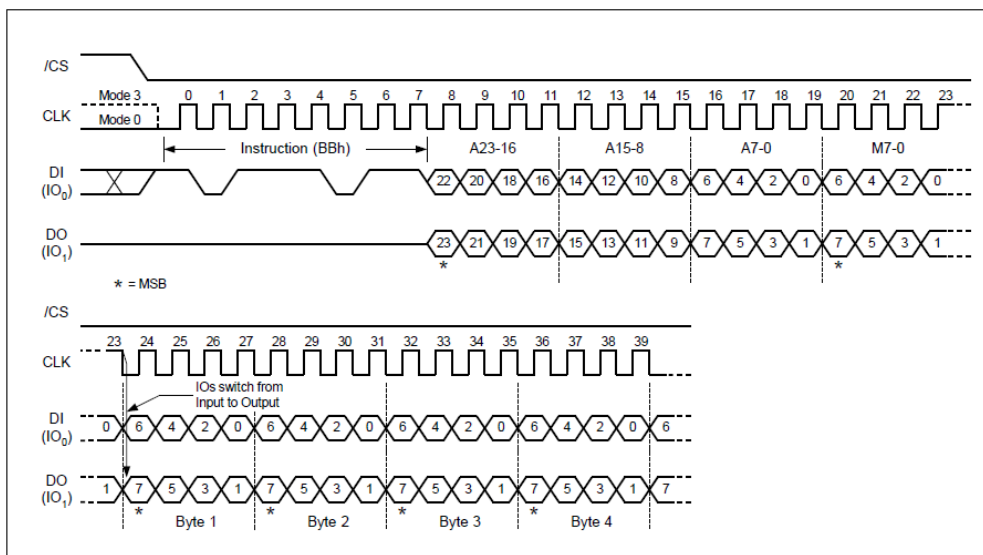

Figure 15, Dual I/O Fast Read Sequence Diagram
The Dual I/O Fast Read command is similar to the Dual Output Fast Read command but with the capability to input the 3-byte address (A23-0) 2-bit per clock by SI and SO, each bit being latched in during the rising edge of SCLK, then the memory contents are shifted out 2-bit per clock cycle from SI and SO. The command sequence is shown in followed Figure15. The first byte addressed can be at any location. The address is automatically incremented to the next higher address after each byte of data is shifted out. The Dual Enable bit (DE) of NONVOLATILE CONFIGURATION REGISTER must be set to enable the Fast Read Dual I/O Instruction.